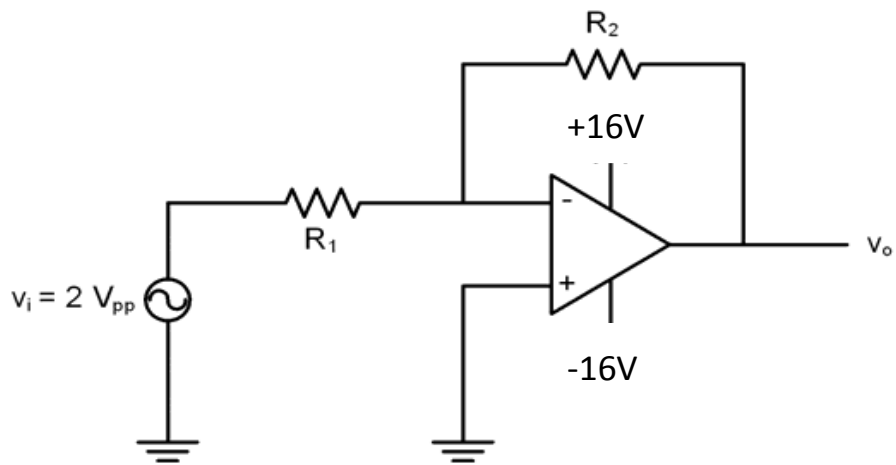

Figure 5. Inverting op amp configuration
- 7) Using the inverting operational amplifier circuit of Figure 5, design the circuit such that the closed loop gain is $v_o/v_i = -2$, as per the gain equation **(2)**.
- 8) Construct the operational amplifier circuit of Figure 5 for the gain that you designed from part 6) of this lab. Again use the DC power supplies to power your op amp with ± 16 V.